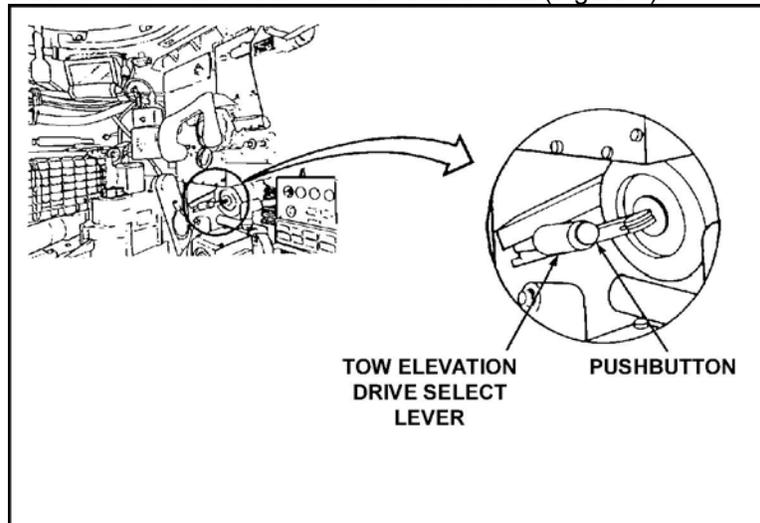

Figure 4. TOW elevation drive select lever.
- c. Move the TOW elevation drive select lever to MANUAL (Figure 4).